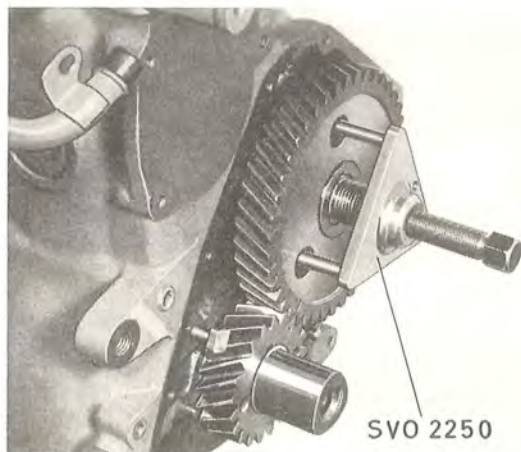

Fig. 2-34. Removing the camshaft gear
4. Remove the camshaft nut and pull off the camshaft gear with puller SVO 2250, see Fig. 2-34.